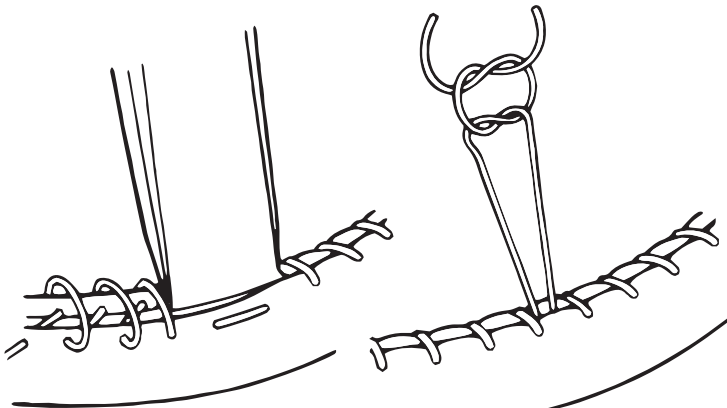

Figure 7
5. Lace each hole in cover. When you arrive at a steering wheel spoke, lace only the front holes, skipping the rear holes. Make sure to skip the same amount of holes in the rear as were laced in the front. Refer to figure 7.